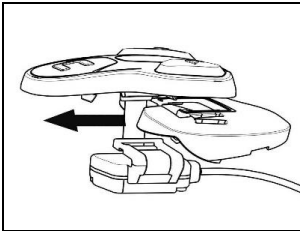

Fig. 18
- Insert the support specific for your helmet in the flex cable of the keypad (Fig. 18).